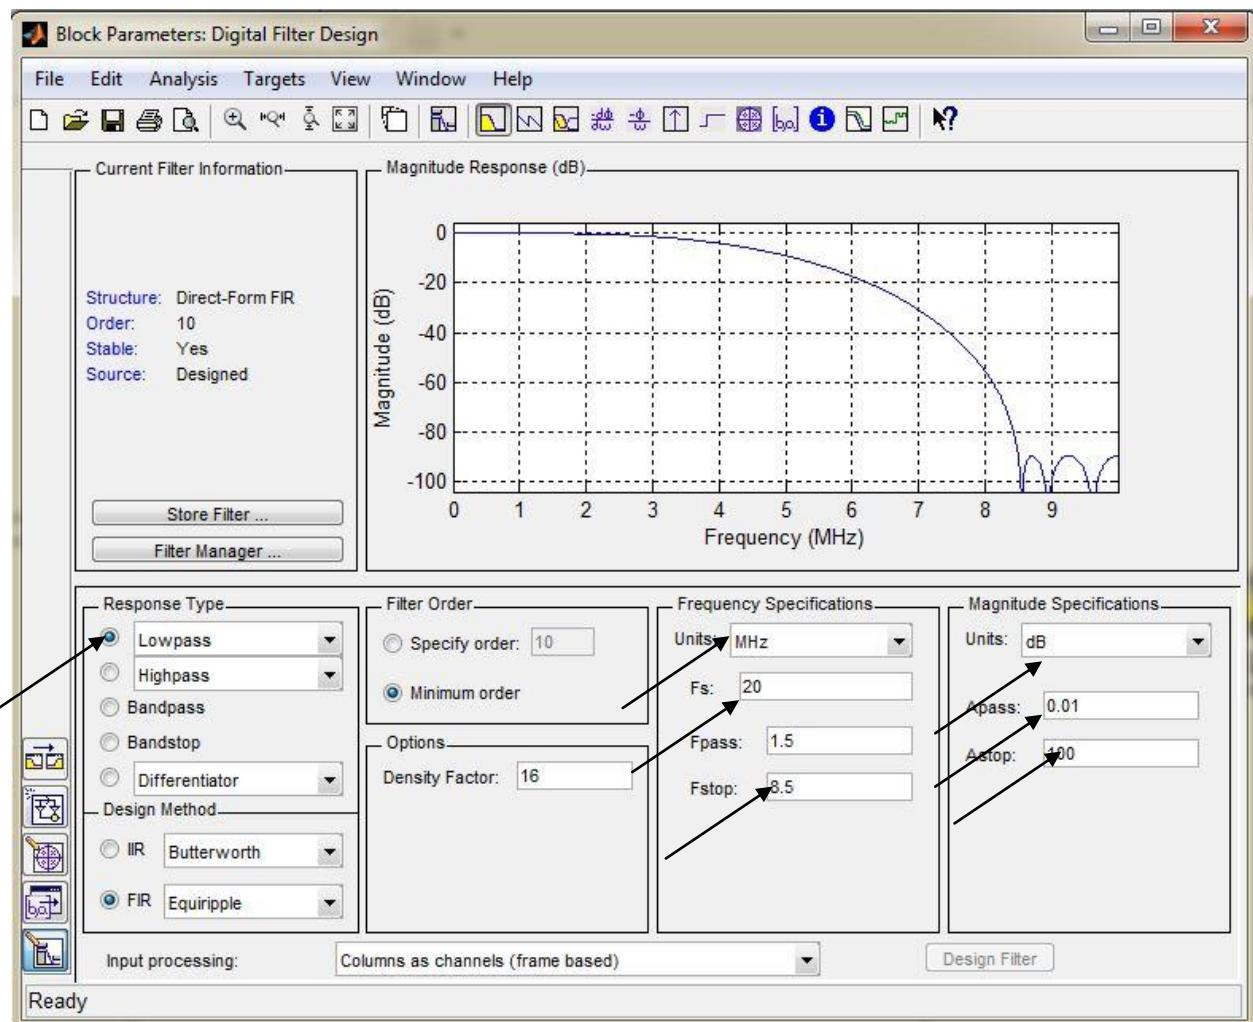

Figure 13: Digital Filter Design
5. For block **Digital Filter Design(From FDATool)**: Properties as shown in figure 13.